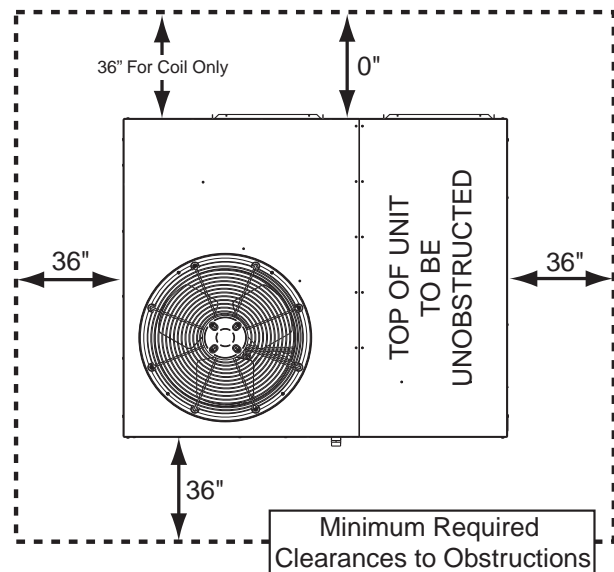

Figure 2. Clearance Requirements
- Sufficient clearance for unobstructed airflow through the outdoor coil must be maintained in order to achieve rated performance. See Figure 2 for minimum clearances to obstructions.
Q6SD units are certified as combination heating and cooling equipment for outdoor installation only. Figure 2 (page 7) displays the minimum clearances to obstructions for both downflow and horizontal discharge.
- Clearances must be in accordance with those shown in Figure 2. Also consider clearances for access to the internal filter.